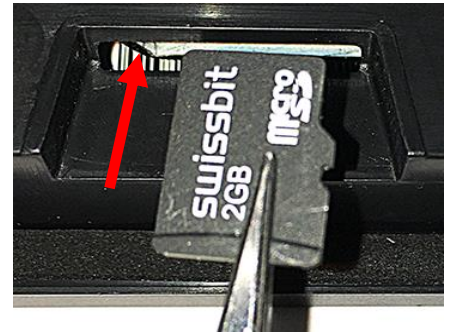
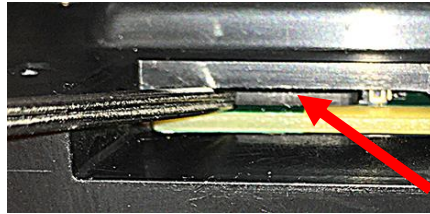

Figure 10
Figure 11
10. Insert the Micro SD card with contacts down towards the board (see Figure 10) into the new controller. Gently push the Micro SD card into the SD card slot until it locks in place (see Figure 11).